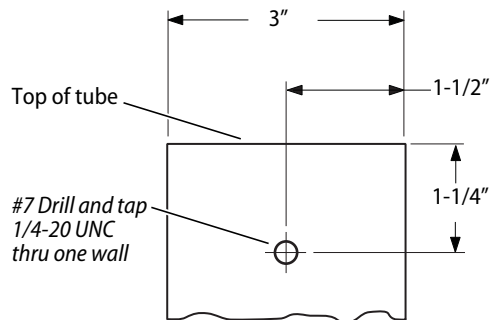

Figure 11 Drilling and tapping the set screw hole
- 1 Drill and tap a hole into one of the long faces at the top end of the tube as shown in Figure 11.